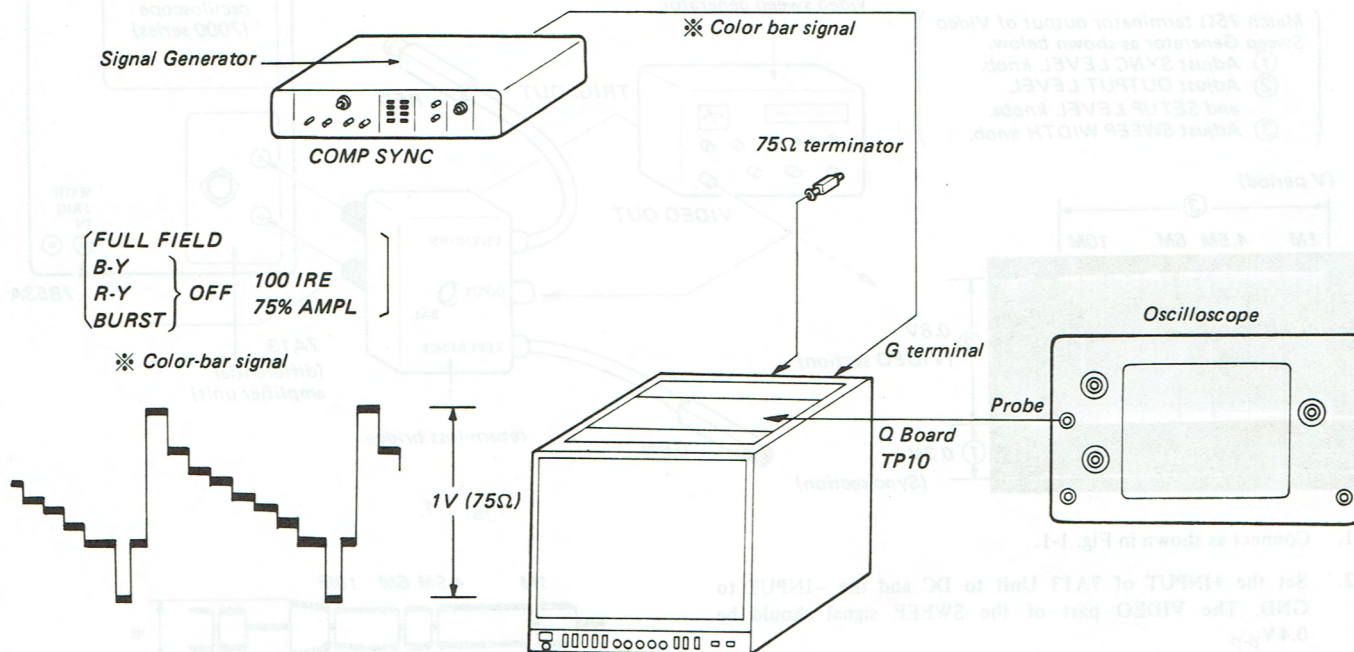

Fig. 2-1.
1. Connect as shown in Fig. 2-1.